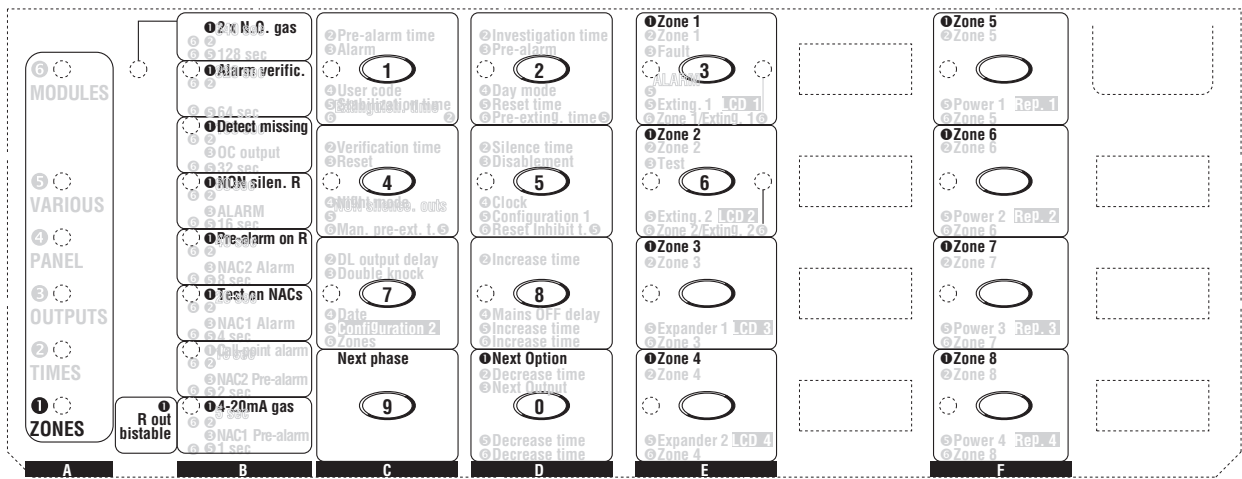

Figure 30 Programming the Zones
The **ZONES** LED will blink to indicate that the system is ready to start the programming procedure. During this phase, the keys and LEDs will operate in accordance with the options preceded by ❶ in the panes on the Programming Overlay, see Figure 30.